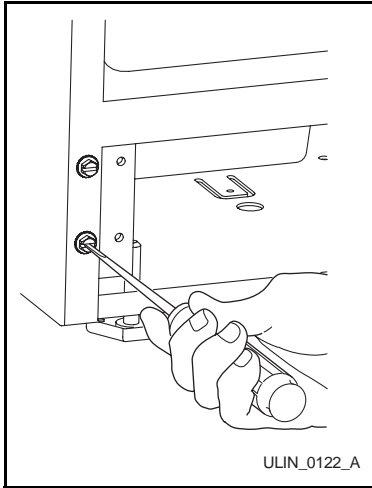

Figure 40
- Remove screws on opposite side of cabinet (**Figure 40**). Note that there may be a nut behind one or both screws on either side.